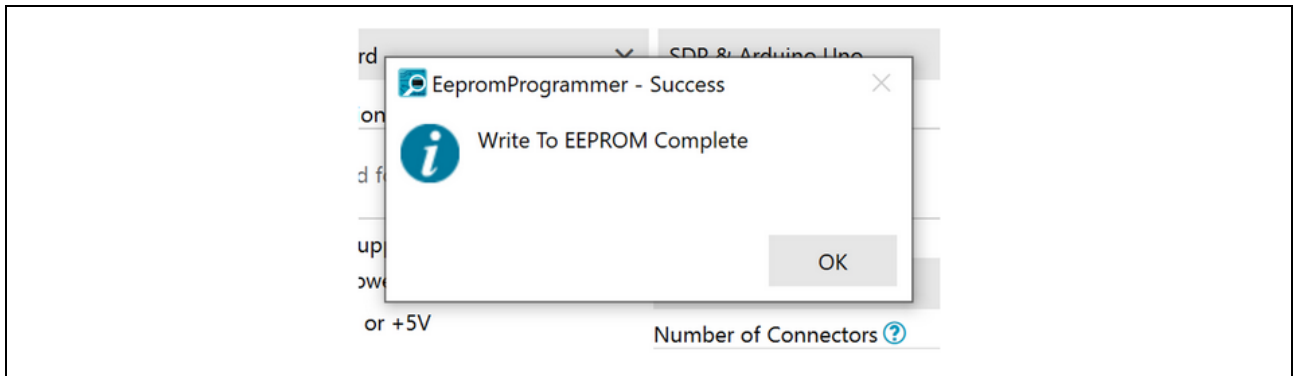

Figure 17. EEPROM Writing Completed Prompt
- 4) On successfully writing the EEPROM, a dialog with a completion message pops up, as shown in Figure 17.